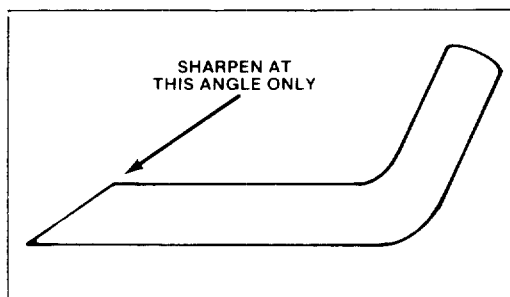

Figure 14
6. **SHARPENING BLADE** — Using a file, sharpen top side of blade and maintain original cutting angle (Fig. 14). The blade will remain balanced if same amount of material is removed from both cutting edges.